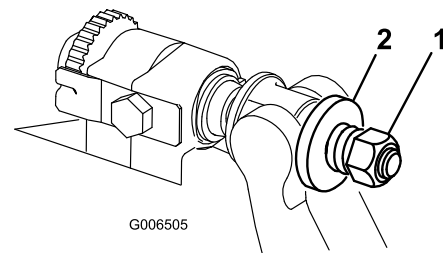

Figure 29
- Tighten spring tension nut until spring is collapsed, then back off 1/2 turn (Figure 29).